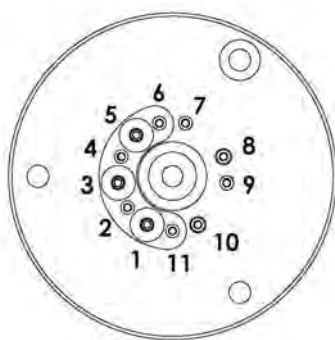

Figure 1
13. Connect the tubes from step 3 plus the new tubing kits 50 and 51 on the shear valve according to Figure 1, 3 and 4. (Make sure that the tubes are connected properly. A misplaced tube will cause a malfunction of the instrument. Check that the teflon tube from the OT-inlet and CT-inlet (if present) is pressed all the way inside the shear valve metal tube.